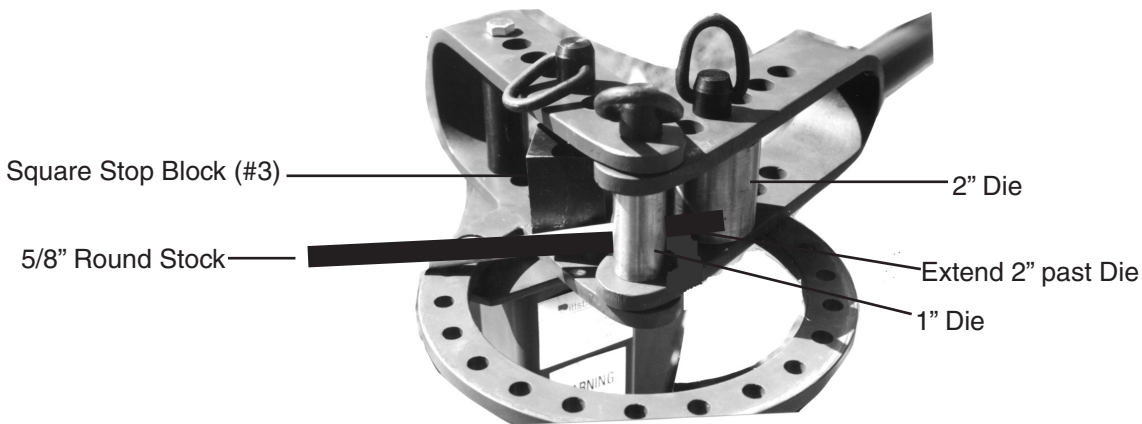

Figure 7
Step 2) Set the appropriate Die into place on the Outer Handle/Die Receiver (#9) between the upper and lower fork. Secure the Die in place by inserting the Short Hitch Pin (#2) through the Outer Handle/Die Receiver (#9) and the Square Stop Block. The Square Stop Block (#3) is held in place against the stock as shown in Figure 7 on page 12.
Step 2) With the Handle (part #8/9) in the normal position, place the 1" Die on the Center Pin. Place the 2" Die in the 2nd hole- as in Figure 7. Insert the round stock so that the end extends 2" down past the 1" Die - see Figure 7. Make the first bend at 90 degrees.
The following instructions are for a 1" Inner Diameter tube clamp using 4-1/2" long, 3/16" thick x 1" wide flat stock. See Figure 7 as a reference.